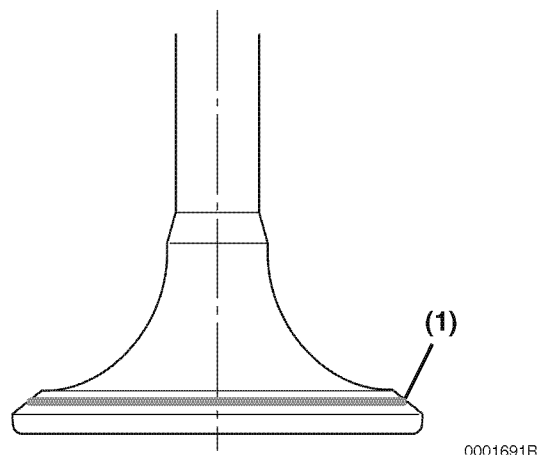

Figure 6-24
Coat the valve seat with a thin coat of bluing compound. Install the valve and rotate it to distribute bluing onto the valve face. The contact pattern should be approximately centered on the valve face (**Figure 6-24, (1)**) and even in width.